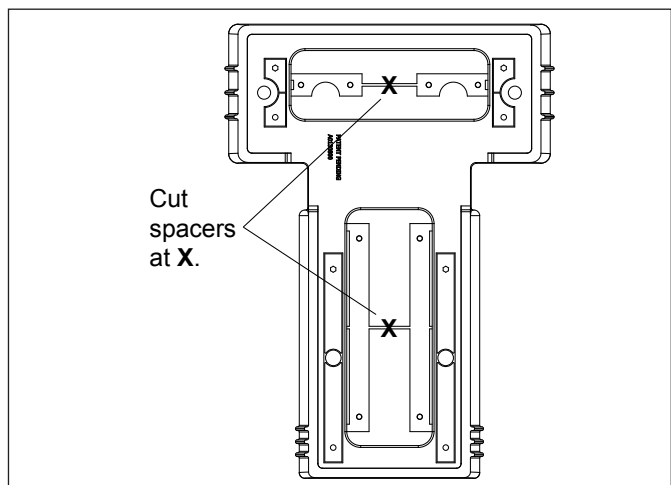
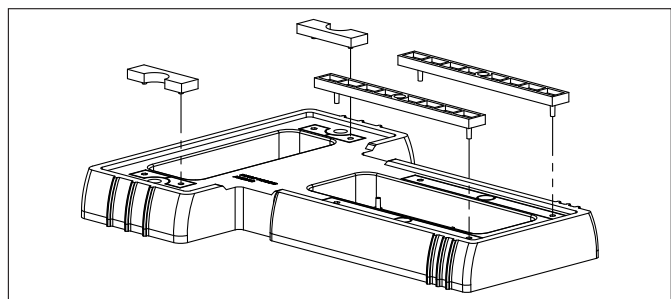

Figure 5. Cut Sets of Spacers Out of Base
Figure 6. Snap Spacers into Place
1. Using a hand cutter tool, cut the plastic bars connecting the top and bottom sets of spacers, as shown in Figure 5.
2. Push the two (2) top spacers and two (2) bottom spacers out of the base.
3. Align the pins in the four (4) spacers with the holes in the base and snap the spacers into place, as shown in Figure 6.